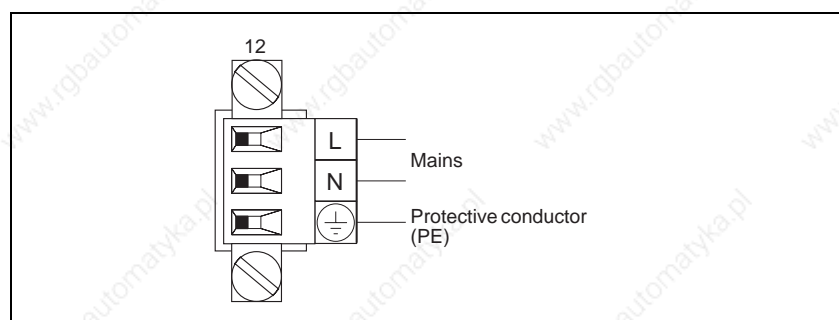

Figure 2-7 Mains connection
2. Insert the 3 wires into mating plug terminal block as shown in Figure 2-7 and tighten screws.